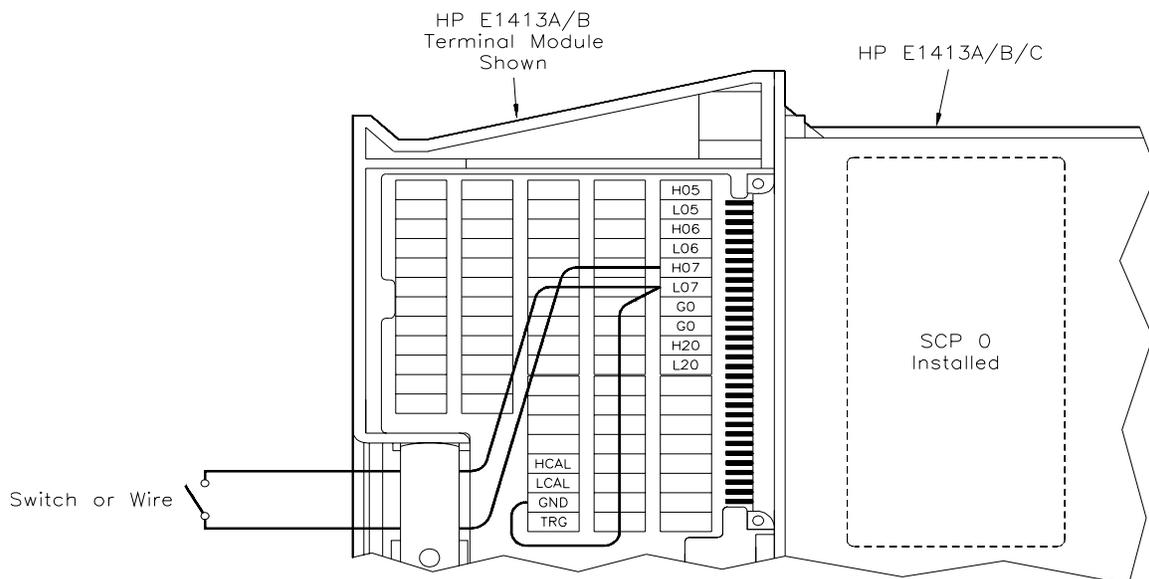

Figure 2-2. Open Transducer Detection Connections
- Set up the equipment as shown in Figure 2-2. Connections are shown for channel 07 - modify as required.